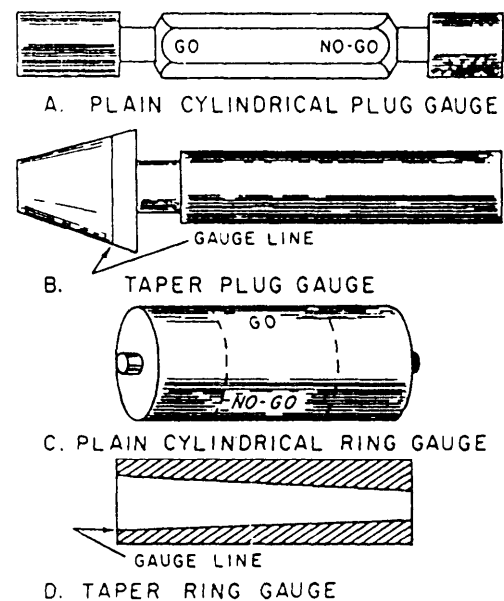

Figure 1-27.—Ring gauges and plug gauges.
**RING AND PLUG GAUGES.**—A ring gauge (fig. 1-27, views C and D) is a cylindrically-shaped disk that has a precisely ground bore. Ring gauges are used to check machined diameters by sliding the gauge over the surface. Straight, tapered, and threaded diameters can be checked by using the appropriate gauge. The ring gauge is also used to set other measuring instruments to the basic dimension required for their operation. Normally, ring gauges are available with a GO and a NOT GO size that represents the tolerance allowed for the particular size or job.
A plug gauge (fig. 1-27, views A and B) is used for the same types of jobs as a ring gauge. However, it is a solid shaft-shaped bar that has a precisely ground diameter used to check inside diameters or bores.